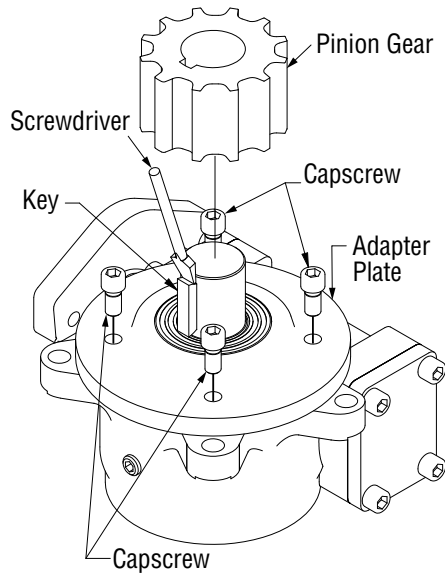

Figure 5-26, Adapter Plate Removal
4. Remove the pinion gear and key from the output shaft. Use a screwdriver to knock the key loose. (Figure 5-26)
5. Remove the capscrews from the adapter plate. The adapter plate capscrews are installed with Loctite, use a long handle wrench to them break loose. Lightly tap the back of the adapter plate with a rubber mallet to remove. (Figure 5-26)